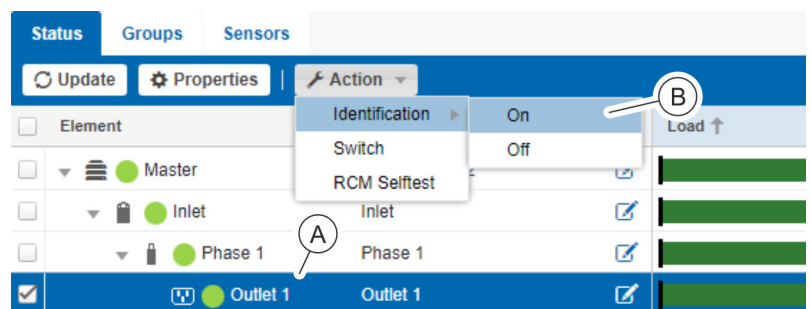

Fig. 105: “Status” menu – “Status” tab
2. Select the desired socket or socket group in the “Status” tab (Fig. 105/ⓐ).
3. Switch on the identification of the selected socket or socket group by choosing “Action → Identification → On” (Fig. 105/ⓐ).
4. ➤ Switch off the identification of the selected socket or socket group by choosing “Action → Identification → Off” (Fig. 105/ⓐ).